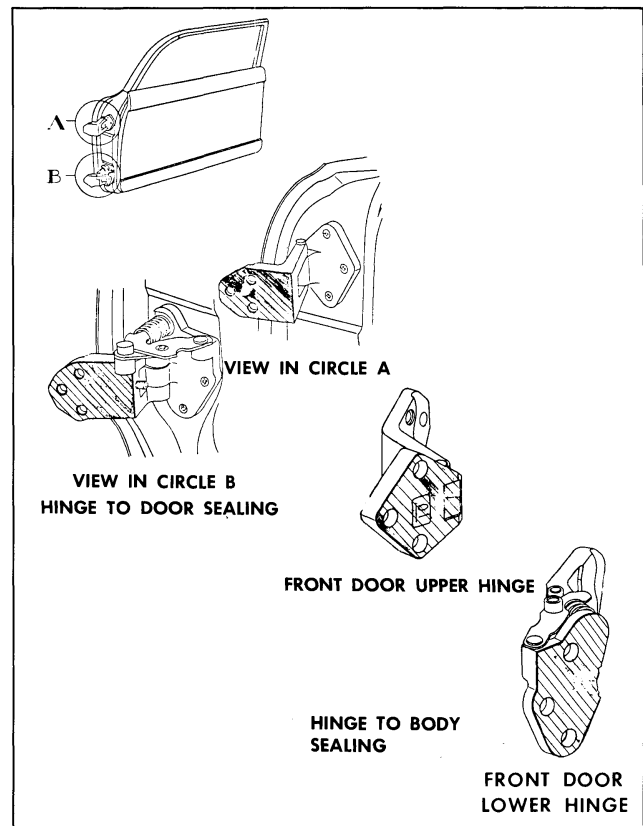

Fig. 12-16 Front Door Hinge Sealing
1. As an anti-squeak precaution and to prevent entry of water into body at hinge attaching screw locations, coat attaching surfaces of hinges with heavy-bodied sealer prior to installing door (Fig. 12-16).